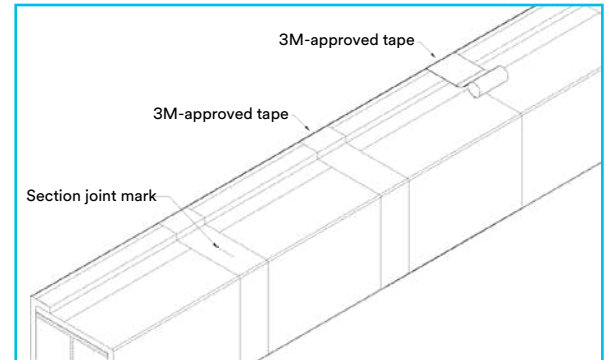

Figure 6
- 5** The butt seam where the two pieces meet (perimeter joint) is to be covered with 3M™ Aluminum Foil Tape 437 100 mm (4 in). Tape and mark the location of the joints on the tape using a soft-tipped marker to establish a reference point. The reference points are used to ensure the 50 mm (2 in) staggering of joints. The second layer should be positioned down the longitudinal run so no two joints align (Figure 6). Smooth the tape with a hard roller or straight edge applying pressure to ensure adequate adhesion of the tape to the E-Mat and to remove any air gaps.